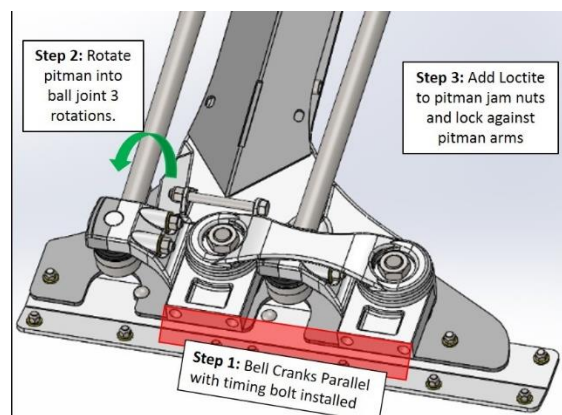

Figure 141
4. Remove the knife head bearings and use a straight edge to set the bell cranks parallel. This is the starting point for the timing. Figure 141
**Note:** Make certain the tie rods stay straight when tightening the jam nuts. Use a pry bar to hold the tie rods in place while tightening the jam nut. Figure 141